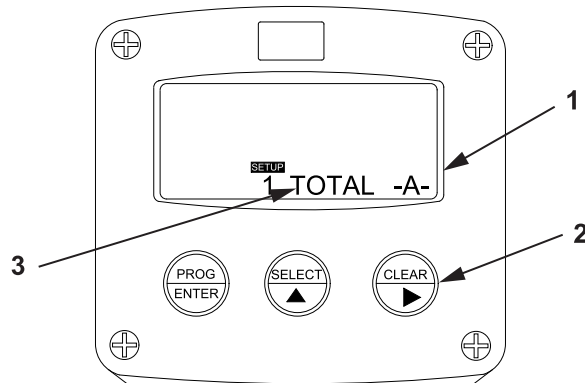

Figure 47. TOTAL A Display.
2. Verify that TOTAL A (Figure 47, Item 3) appears in the display screen (Figure 47, Item 1).
3. Press the CLEAR key (Figure 47, Item 2) five times.